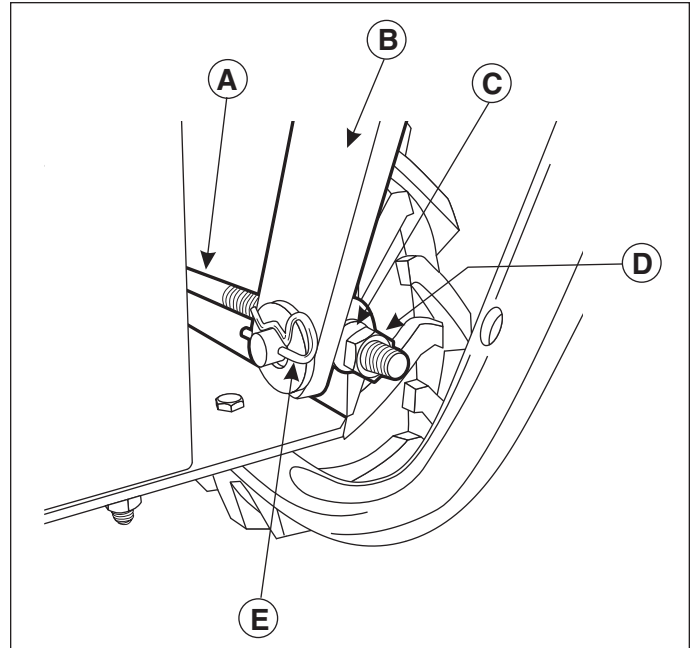
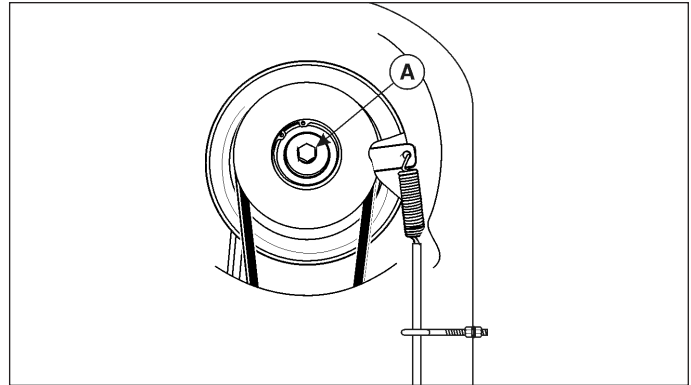

Figure 17 - Blade Clutch Adjustment
Figure 18 - Blade Spindle Brake
2. Loosen nut (D, Figure 17).
3. Remove hairpin clip (E).
4. Slide clutch rod fitting (C) out of blade clutch lever (B).
5. Move clutch rod lever (B) to fully disengaged position.
6. Push forward on the blade clutch engagement lever (Figure 18).
7. Adjust nut (D) and clutch rod fitting (C) until there is no tension on the spring and minimal slack (approximately 1/16") when the fitting is placed into hole in the blade clutch lever.
3. With mower blade engagement lever in the DISENGAGED position, note spindle bolt (A, Figure 18) in center of pulley (bolt is fastened to blade spindle and indicates blade rotation). If clutch rod is adjusted properly, spindle should not turn.